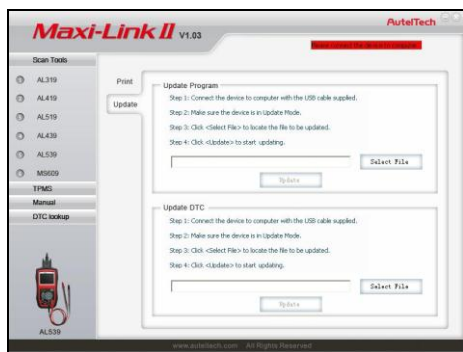

Figure 3.13
- 2) Run the Maxi Link II Tool Kit in your computer. (Figure 3.13)
- 5) Select the programs to be updated in your computer. There are two types of programs: operating system and DTC library. (Figure 3.13)